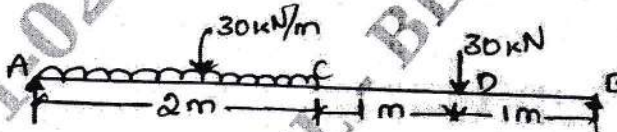

Fig.Q5(b)
- b. For the simply supported beam shown in Fig.Q5(b), draw SFD and BMD. Also find point of zero shear and its bending moment.